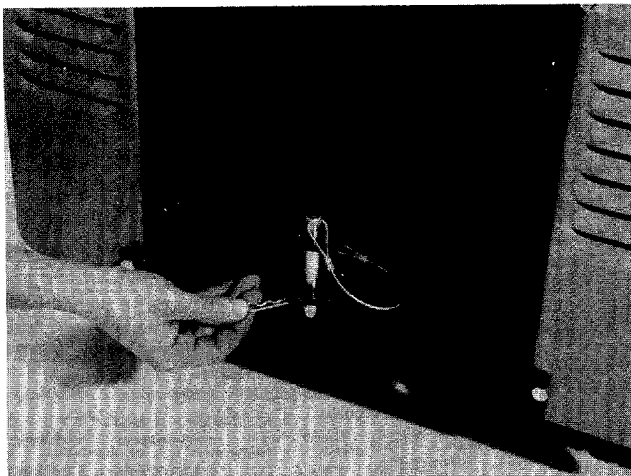

FIGURE 32.
4. Use the hitch pin to secure your attachments to the rider. See figure 32.